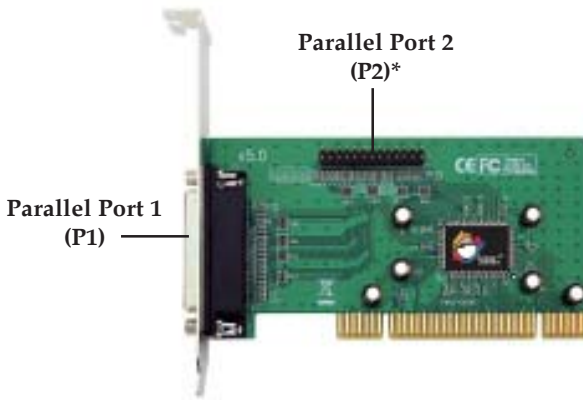

Figure 1. Cyber Parallel Dual layout
4. If you need the second parallel port, connect the 25-pin ribbon cable connector now and remove another slot bracket cover from an available PCI slot. See **Figure 1** on page 2 for more details. Skip this step if you need only one parallel port.